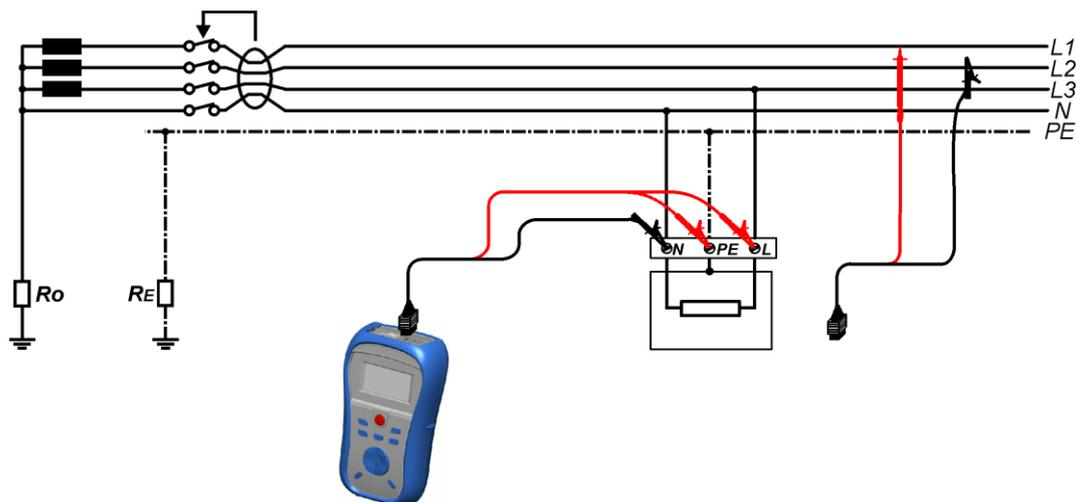

Figure 5.11: Connection of universal test cable
- ❑ **Connect** test leads to the tested object (see *figure 5.11*).